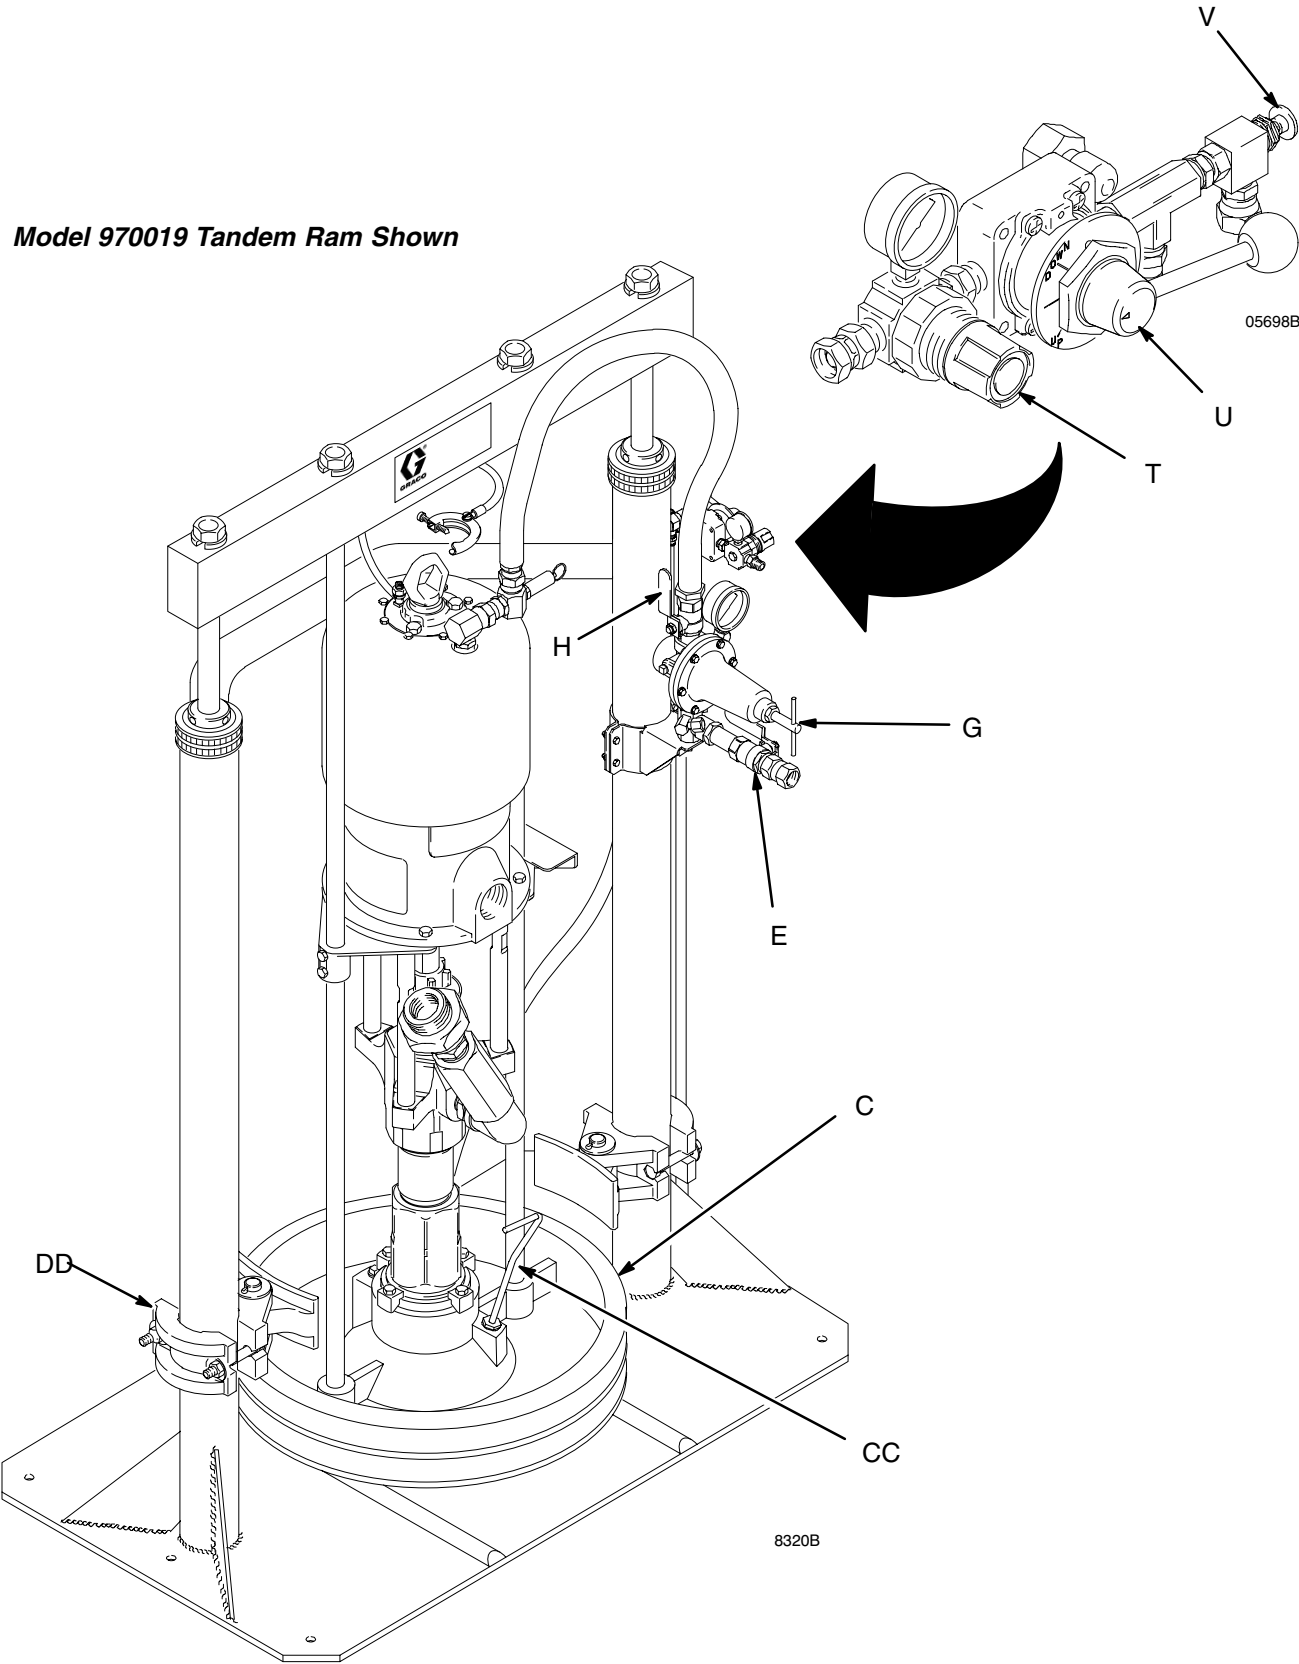

Fig. 6
2. Close all air regulators and air valves. See Fig. 6.
3. Open main air bleed valve (E) and set ram air regulator (T) to 2.8 bar, 0.28 MPa (40 psi). Move director valve (U) handle so arrow points to UP, and let ram rise to full height.
4. Set full drum of fluid on ram base, slide drum back against tube stop, and center under ram plate (C). Use drum clamps (DD) to center, hold, and properly align drum with ram.
1. Be sure pump air regulator (G) is closed. Set ram air regulator (T) to 3.5 bar, 0.35 MPa (50 psi). Set director valve (U) to DOWN. See Fig. 6.
3. Keep director valve (U) set to DOWN while pump is operating.
1. Stop pump. Close pump air bleed valve (H). See Fig. 6.
2. Before raising wiper plate, locate push button on air release valve (V).
3. Set director valve (U) to UP to raise wiper plate. At the same time, carefully equalize pressure in drum by operating air release valve.
1. Set director valve (U) to neutral. See Fig. 6.